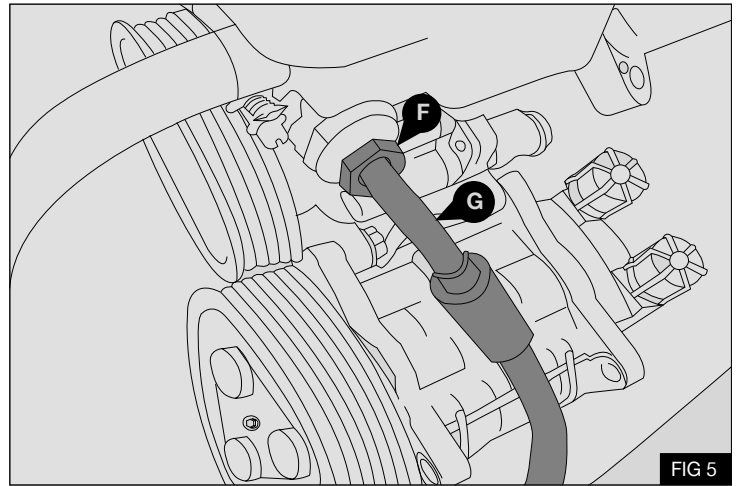

FIG 5
2. Release the power steering pipe nut (F) and turn the pipe (G) to the position show to allow clearance for the compressor. - Fig 5
3. Fully tighten the power steering pipe nut previously released (F) be careful not to overtighten the nut.